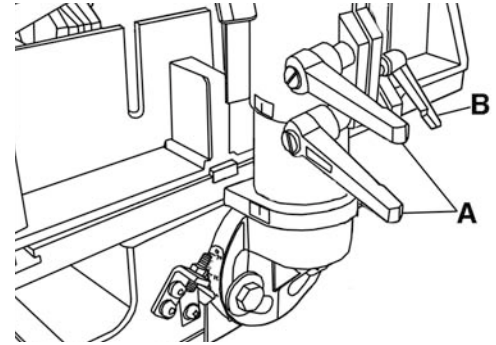

Figure 11
The working height capacity can be increased by 3", we recommend you get help to do this, it could be very difficult to do this adjustment by yourself. To make this adjustment, loosen the two large lock handles (A) Fig.11, then tighten the small lock handle (B) to widen the gap in the column sleeve casting.
Raise the head by hand maximum 3" higher, do not go beyond 3" or else you may affect your cutting operations you will put your safety at risk. Then loosen the small lock handle and tighten the two large lock handles to lock the head in position. See Fig.11.